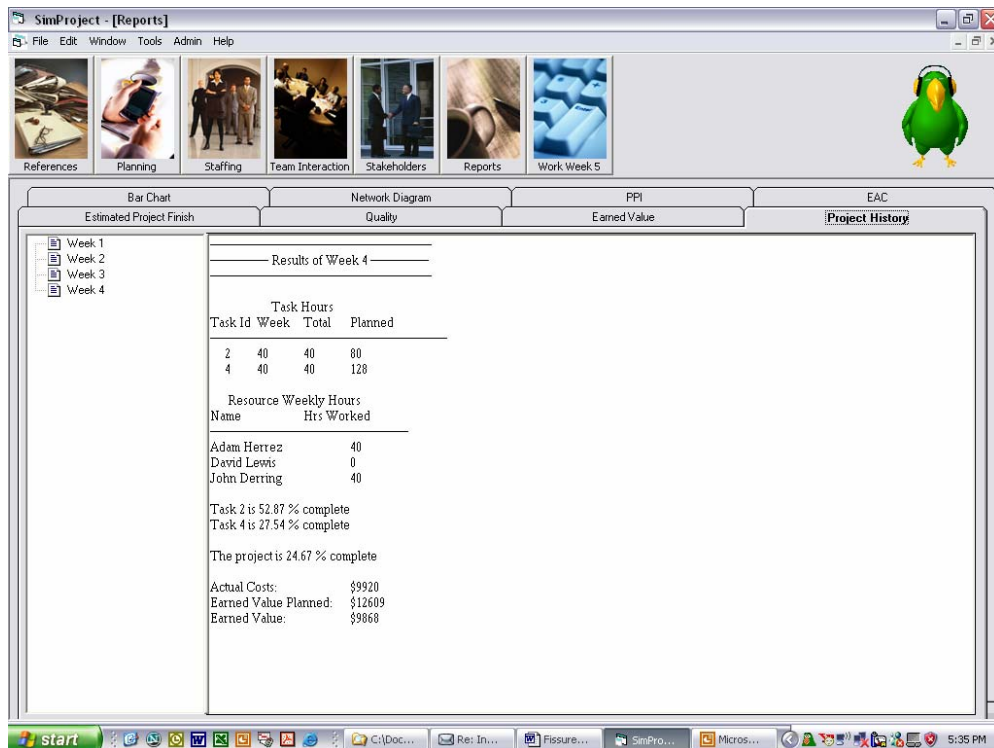

Figure 23 - Reports Screen – Project History
- Project History – a report of each week’s decisions and results (Figure 23)